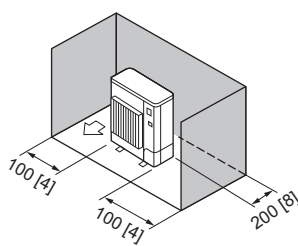

Fig. 2-8
3. Obstacles at rear and sides only (Fig. 2-8)